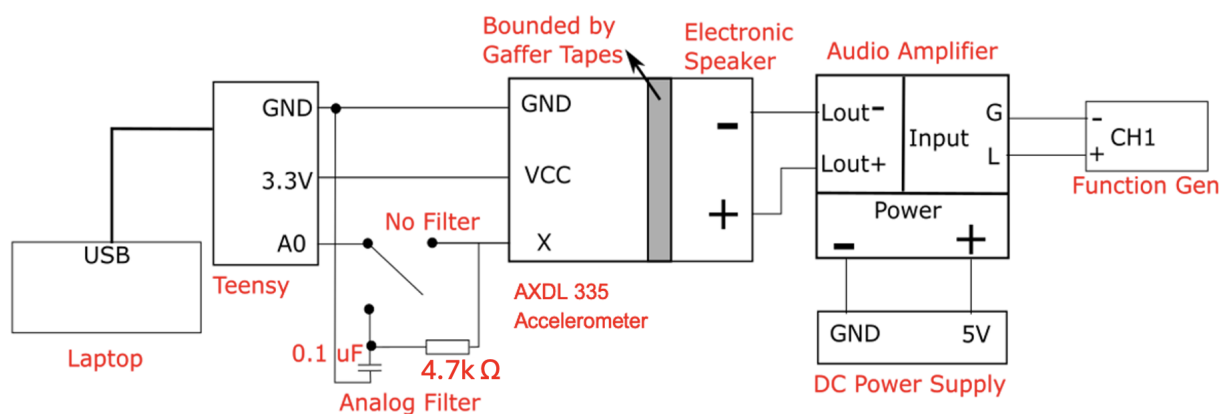
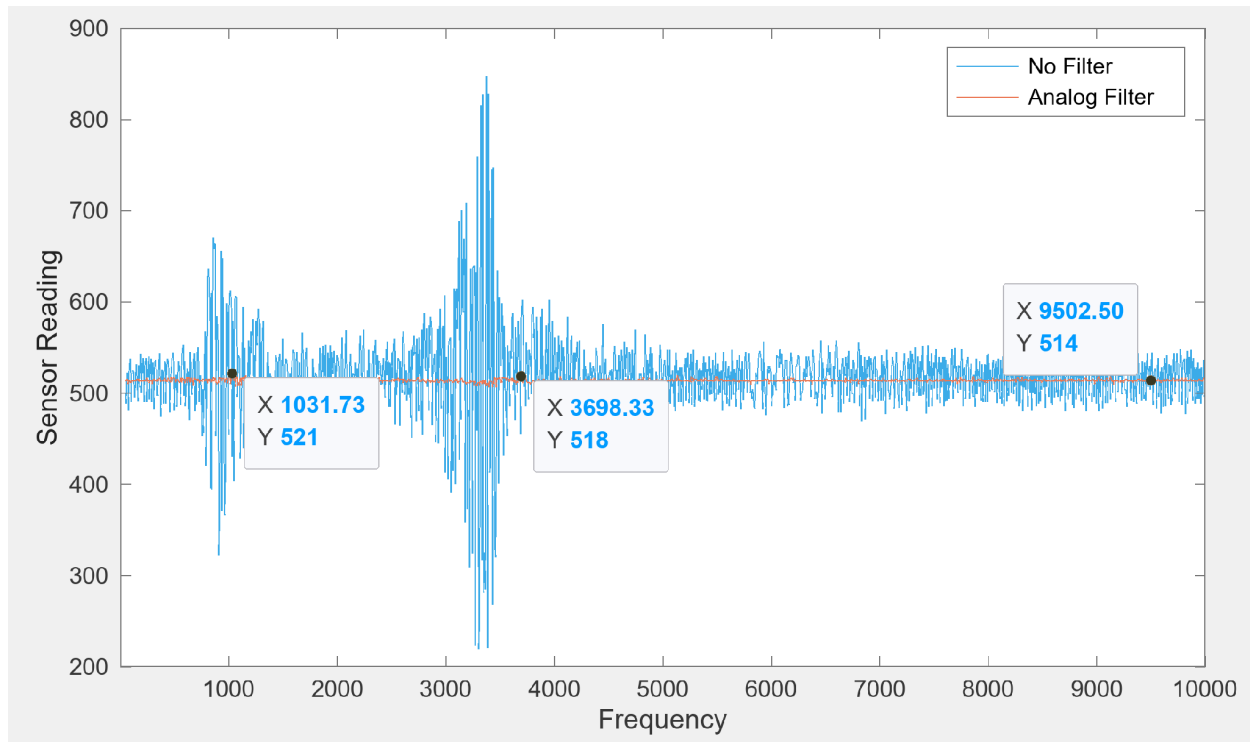

Fig. 0. Connection Diagram
Fig. 3
Now you need to finish the remaining connections as shown in Fig. 0. Basically, you output sine wave signals to your audio amplifier, which drives the speaker and thus change the accelerometer readings acquired by the Teensy 4.0 board. This lab only cares about data of the accelerometer's X axis.
Now you need to insert the RC analog filter between the X axis output and Teensy input port (see the switch in Fig. 0) to get rid of the high-frequency injection signals before they pass through Teensy's ADC. The RC filter has a cut-off frequency around 340 Hz. When it's set up, repeat the same frequency sweep and **logging** procedure as problem 1 (50 Hz to 10k Hz in 30s). With the new data, you will be able to produce a figure like Fig. 3. Note that you may observe a DC offset between the two traces which is fine.
- Submit a figure similar to Fig. 3 by showing sensor readings both with and without analog filtering simultaneously. Once you complete this figure, please ask the TA to check it off during lab sessions or open hours.
- You also need to clearly label on the figure the resonance points **of the analog-filtering data** as well as a no-attack point with legends, as shown in Fig. 3.